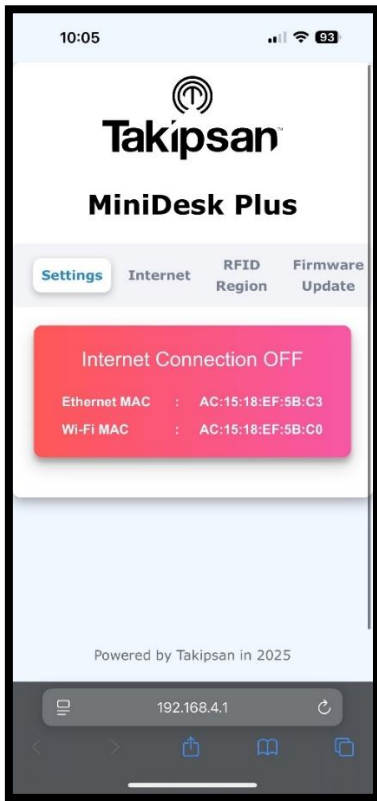

Figure-16
- 2- After the Wi-Fi connection is established, the user needs to open a Web Browser and type the link: **192.168.4.1** to Access the interface page of the MiniDesk Plus. (Figure-16)